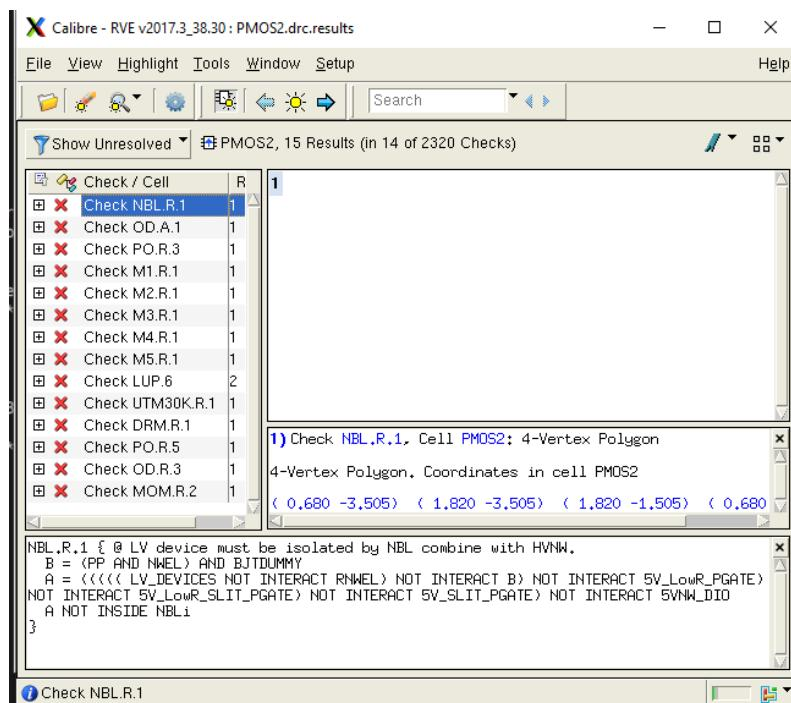

Figure 21: DRC Summary Report 1
- Click **Run DRC** icon on the left of *Calibre Interactive – nmDRC* window. Finally you will have *Calibre – DRC RVE* and *DRC Summary Report* windows with design rule violations as indicated in Fig. 21 and Fig. 22 respectively.
- Correct your layout according to the errors and warnings in *Calibre – DRC RVE window* Fig. 21. Click at the errors to get some information about it at the bottom of *Calibre – DRC RVE* window. At the same time, the location of error will be highlighted in the layout. It should be easy for you to realize what should be modified.